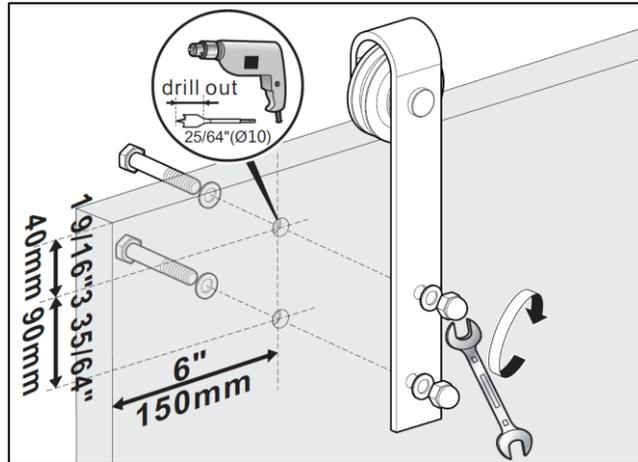

Figure 7
- Using the Hangers as a template, mark and drill the mounting holes at the locations shown in Figure 7